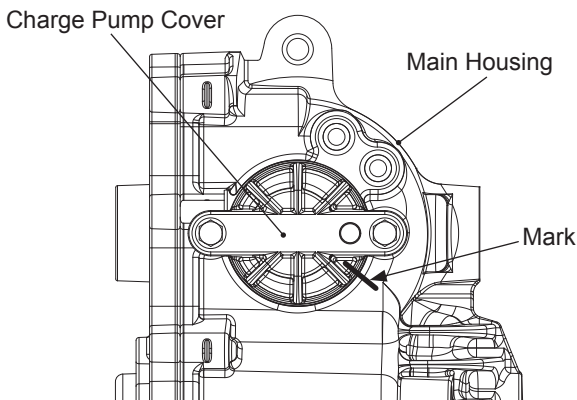

Figure 21, Charge Pump Cover Orientation
1. Mark the orientation of the charge pump cover relative to the main housing, prior to removal. Refer to figure 21.
2. Remove the hex head screws (134), charge pump cover (133), gerotor assembly (131), and the O-ring (132). Remove the connecting tubes (130) and lip seal (157) at this point – *only if the center section will be removed*. A pick type tool can be used to remove the connection tubes and seal.